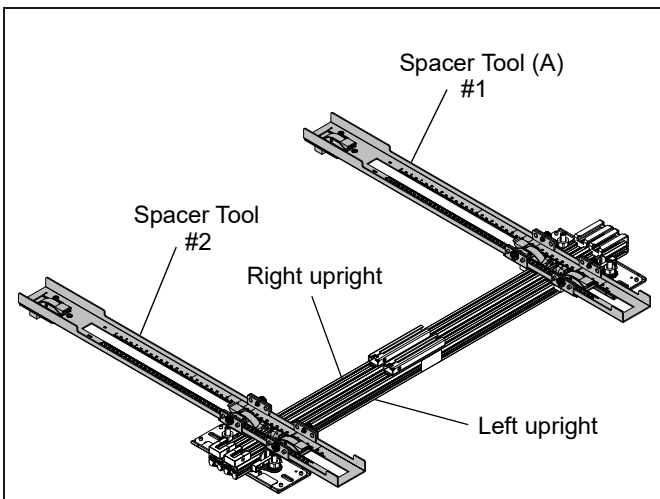

Figure 9
2. Attach the second spacer tool (not included) to the bottom end of the uprights immediately after attaching the first spacer tool (A). (See Figure 9)